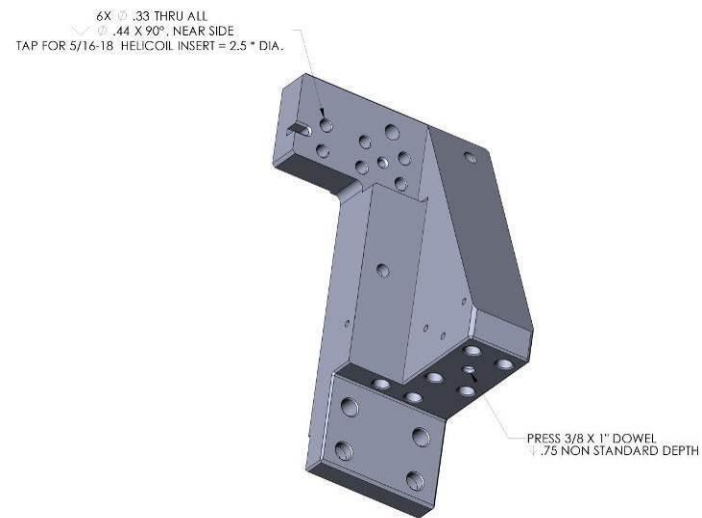

Figure 30: Prep Work for D0902277 Flexure Rod Gusset
- Install Nitronic 60 Helicoil threaded inserts into D0902277. See Figure 30.
- Press (1) 3/8" x 1" dowel pins into D0902277. Pins should sit about 0.4" above the surface.